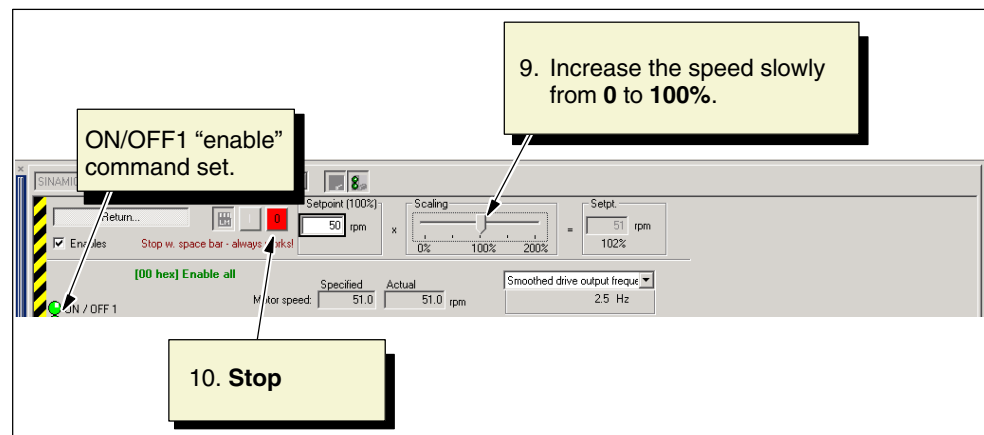

Fig. 4-9 The motor starts to rotate
8. Choose **Drive on**. The ON/OFF1 “enable” command is set and displayed on the control panel (see Fig. 4-9).
9. Move the slider for the speed slowly from 0 to 100% (see Fig. 4-9).